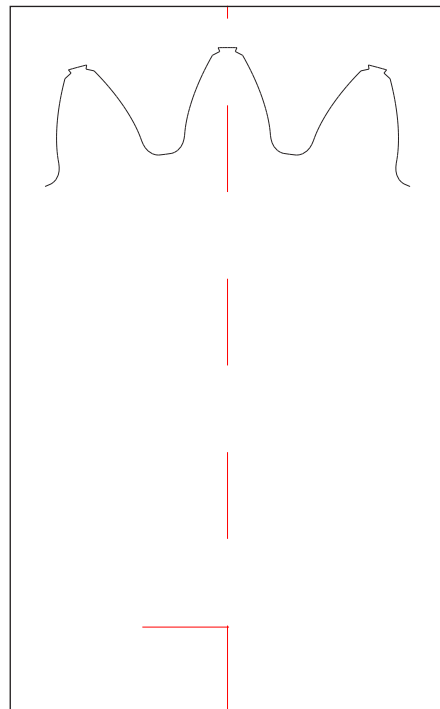

Figure 5 24 spur gear. $d \times f$ is $x1 = x2 = 0$ — “standard” geometry.
- On "standard centers" the summation of X_1 and X_2 is zero (Fig. 5)